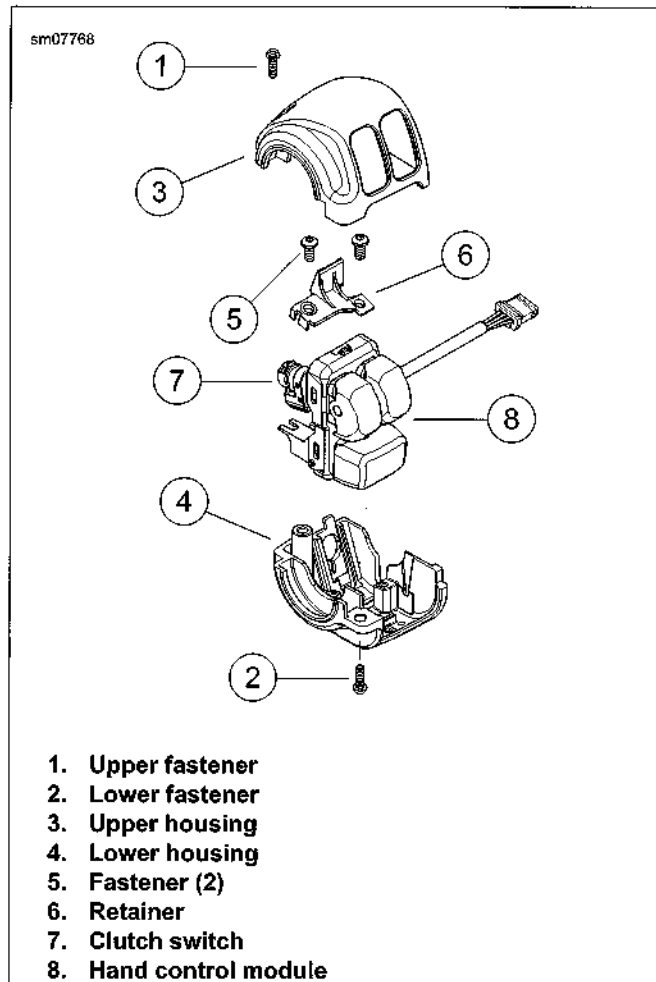
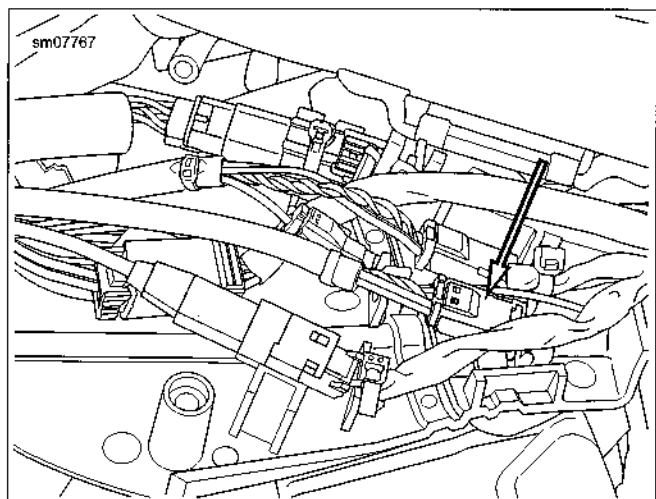

Figure 6-120. LH Switch Assembly
Figure 6-121. LH Control Module Connector [24]
5. See Figure 6-120. Remove upper (1) and lower (2) housing screws. Remove upper housing (3).
6. Remove two fasteners (5) and retaining plate (6).
7. Remove clutch switch (7).
8. Remove control module (8).
10. See Figure 6-121. Separate LH control module connector [24] housings.